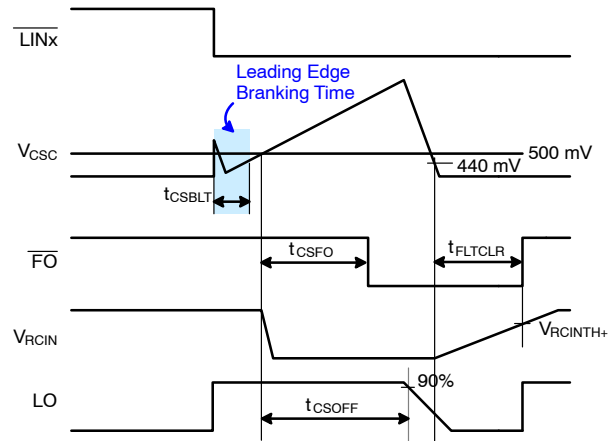

Figure 43. R_{CIN} and Fault-Clear Waveform Definition
Figure 43 shows the waveform definitions of RCIN, \overline{FO} , and the low-side driver; which uses a soft turn-off method when an under-voltage condition of the low-side gate driver supply voltage (V_{DD}) or the current-sense pin (CS) recognizes a fault. If a fault condition occurs, the \overline{FO} Pin is internally pulled to COM and all outputs (HO1,2,3 and LO1,2,3) of the gate driver are turned off. Low-side outputs decline linearly by the internal sink current source ($I_{SOFT} = 40 \text{ mA}$) for soft turn-off, as shown in Figure 43.